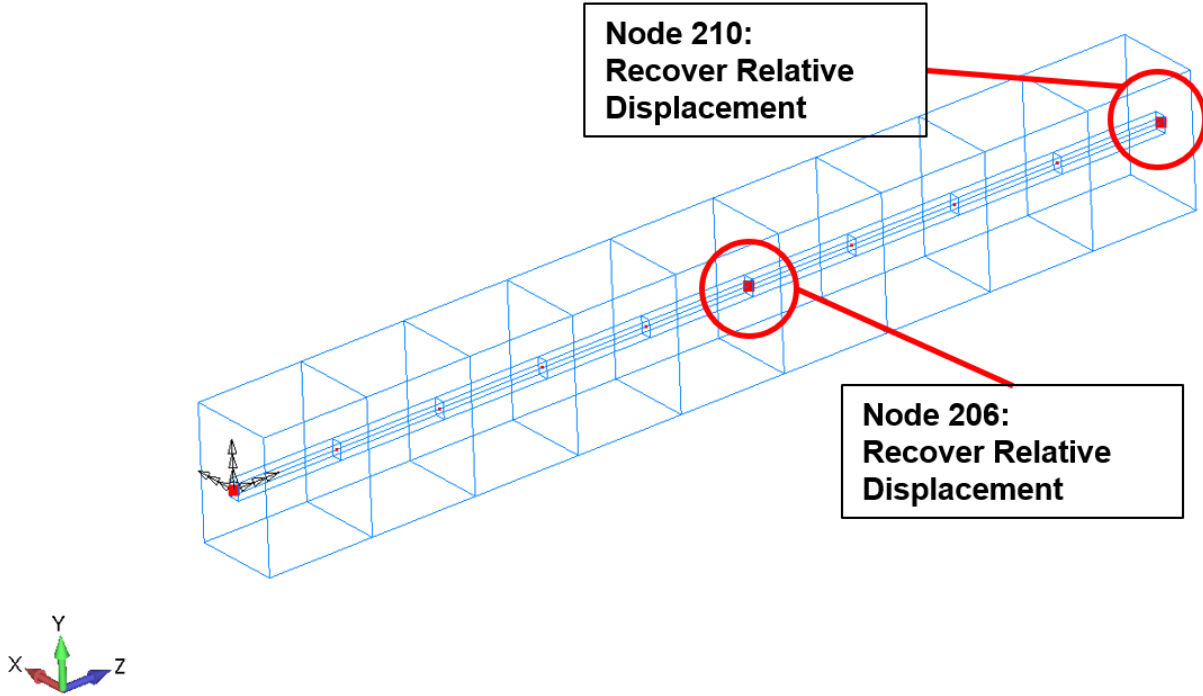

Figure 4-123. Coincident beam model showing nodes of special interest.
1. Import the concentric beam model "coincident\_beams.dat" into Femap. Save the model file as "coincident\_beams.modfem." Figure 4-123 shows the model with notes about nodes that are of special interest for this analysis.